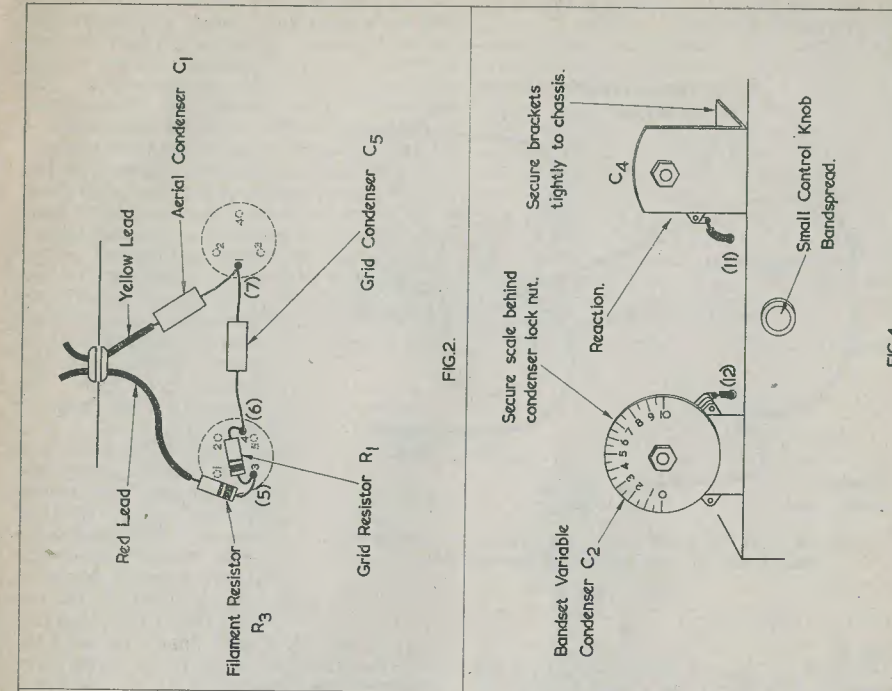

FIG. 2
(5) Thread the red lead (see Fig. 2) through the rubber grommet and solder one end of the filament resistor R_3 , suitably shortened, to this lead after the latter has been bared. Next, solder the free end, suitably shortened, of R_3 , together with one wire end, suitably shortened, of the grid resistor R_1 to tag 3 of the valveholder.
(6) Solder the remaining end of R_1 and one end of C_5 , again having suitably shortened the wire ends, to tag 4 of the valveholder.
(7) Thread the free end of the yellow lead through the rubber grommet (one end of the aerial condenser C_1 is already connected to this as supplied). Take the wire ends, suitably shortened, of both the grid and the aerial condenser (C_5 and C_1 respectively) to tag 1 of the coilholder, and leave unsoldered for the present, two further connections being made later to this point. (See Stage 3, step 9.)